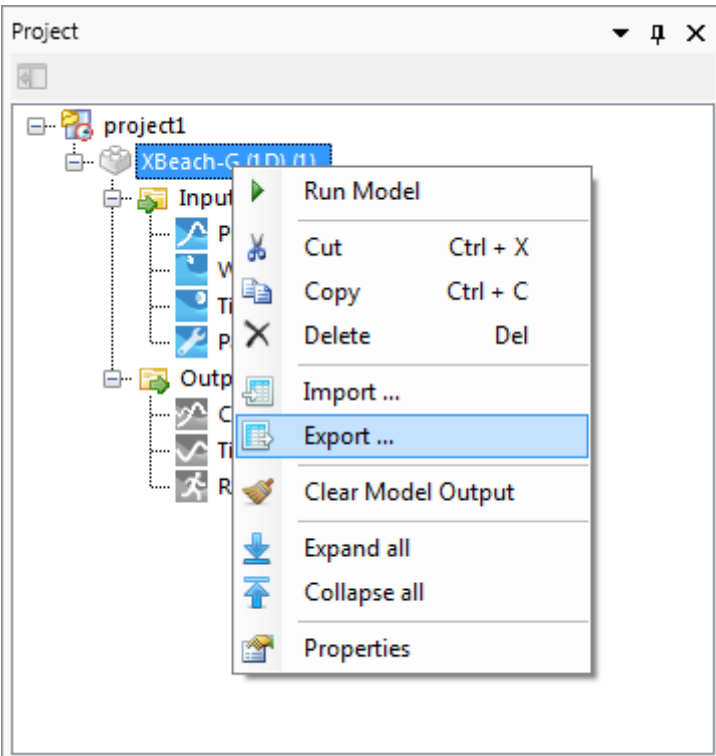

Figure 5.4: Example of the context menu of an XBeach-G model in the GUI including Import and Export options
- ◇ Right click a model in the Project toolwindow and select "Export..." (see Figure 5.4)
- ◇ Right click a model in the Project toolwindow and select "Import..." (see Figure 5.4)